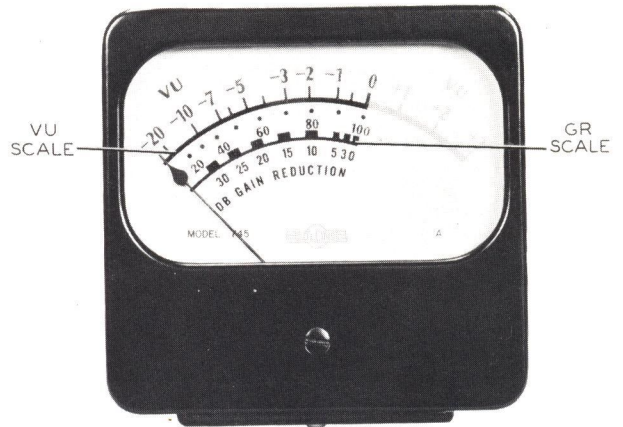

Figure 7. Vu Meter With GR Scale Decal Applied C99-26-P.
c. Apply the decal to the VU meter scale with the plain black line of the decal directly over the black line on the meter scale and with the zero of the decal aligned with the zero of the meter scale. See figure 7.